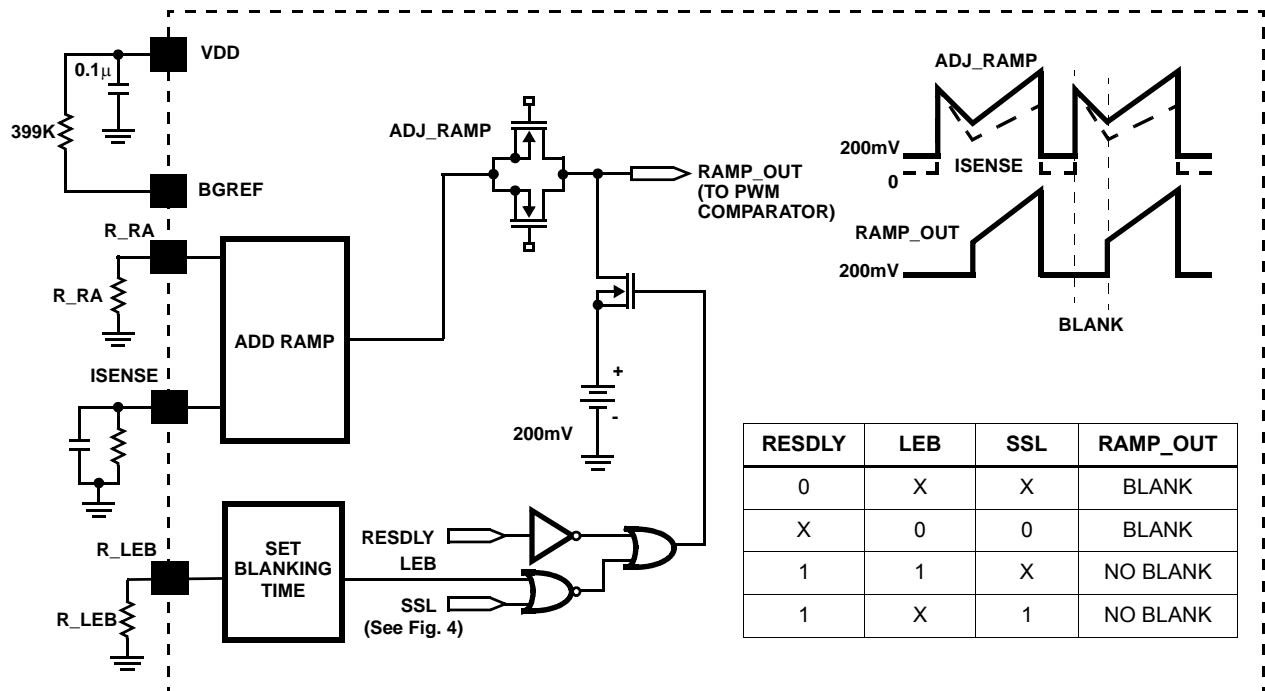

FIGURE 9. SIMPLIFIED RAMP ADJUST AND LEADING EDGE BLANKING CIRCUITS
- The ramp adjust block adds an offset component (200mV) and a slope adjust component to the ISENSE signal before processing it at the PWM Logic block, as shown in Figure 9. This ensures that the ramp voltage is always higher than the OAGS (ground sensing opamp) minimum voltage to achieve a “zero” state.
- Typical ramp values are hundreds of mV over the period on a 3V full scale current. Too much ramp makes the controller look like a voltage mode PWM, and too little ramp leads to noise issues (jitter). The amount of ramp (Vramp), as shown in Figure 9, is programmed with the R\_RA resistor and can be calculated with Equation 10.